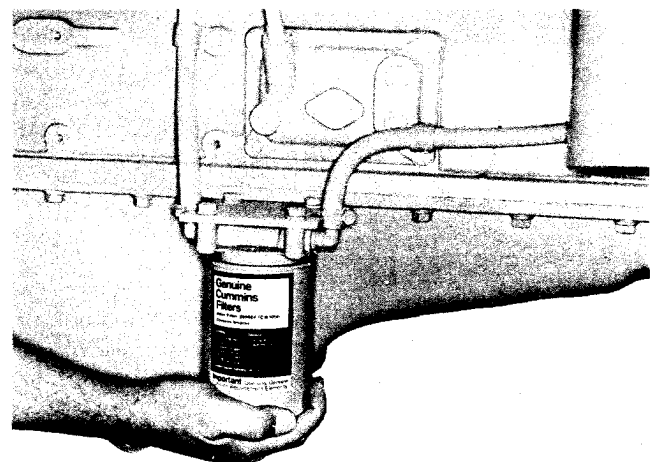

Fig. 0-6, (N11976). Removing spin-on water filter
2. Unscrew element and discard. Fig. 0-6.